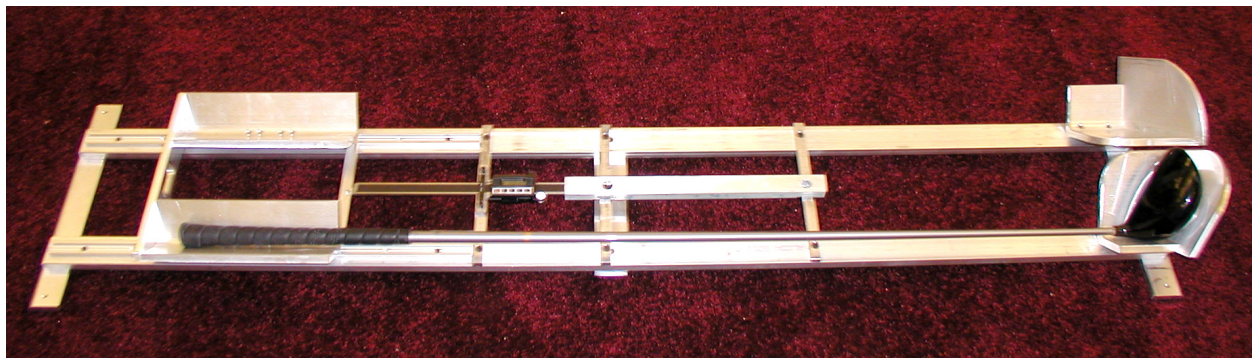

Figure 5.4–Club in Measurement Apparatus
5.4 With the apparatus now calibrated, remove the calibration rod and place the club in the measurement device with the clubhead resting in the clubhead support and the grip resting in the grip support, Figure 5.4.